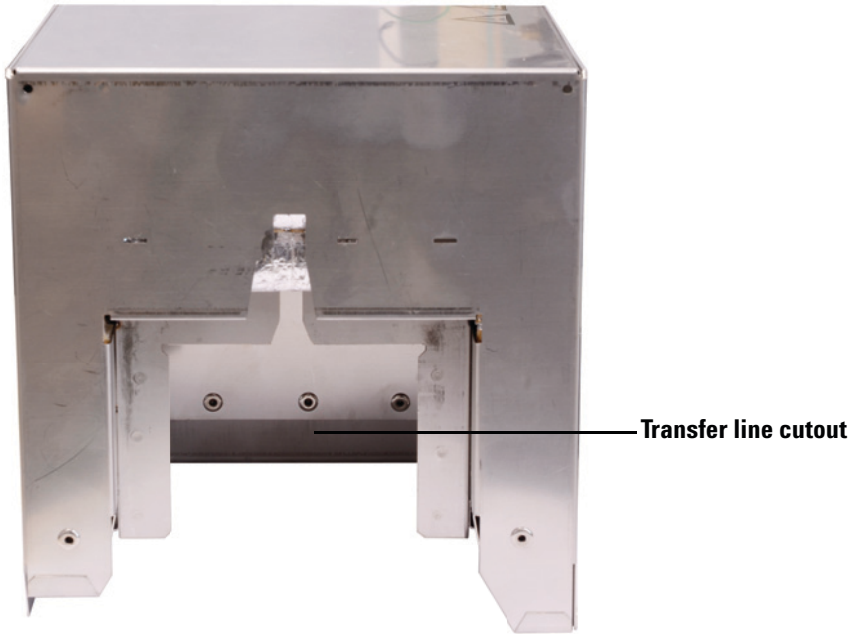

Figure 3 The valve thermal enclosure's transfer line cutout
- 1 Locate the valve thermal enclosure's transfer line cutout, and align it with the transfer line (Figure 3).